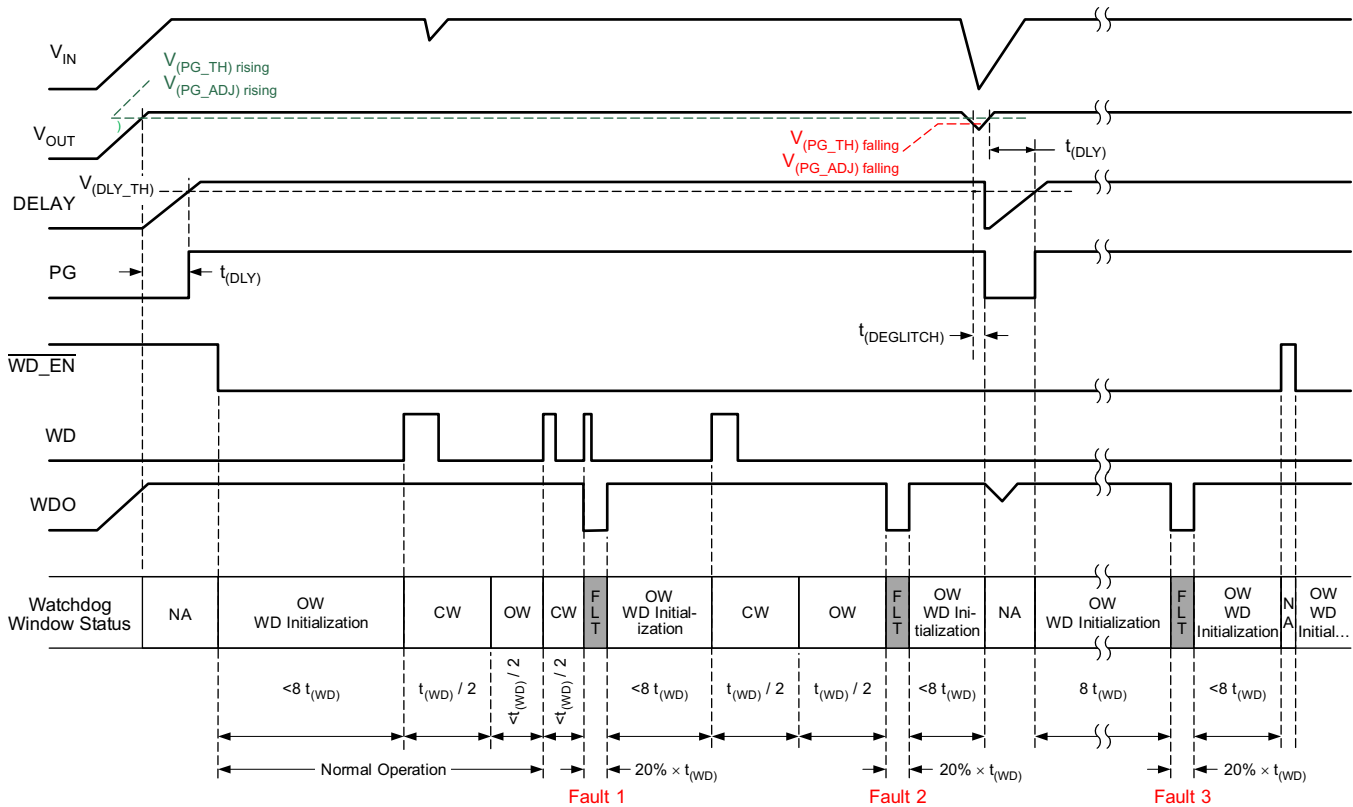

Figure 24. Window Watchdog Operation
The window watchdog is able to monitor whether the frequency of the watchdog service signal (WD) is within certain ranges. A watchdog low-voltage fault is reported when the frequency of the watchdog service signal is out of the setting range. 図 24 shows the window watchdog initialization and operation for the TPS7B68-Q1 (WRS is low). After the output voltage is in regulation and PG is high, the window watchdog becomes enabled when an external signal pulls $\overline{\text{WD_EN}}$ (the watchdog enable pin) low. This causes the watchdog to initialize and wait for a service signal during the first initialization window for 8 times the duration of t_{WD} . A service signal applied to the WD pin during the initialization open window resets the watchdog counter and a closed window starts. To prevent a fault condition from occurring, watchdog service must not occur during the closed window. Watchdog service must occur during the following open window to prevent a fault condition from occurring. The fault output (WDO), externally pulled up to V_{OUT} (typical), stays high as long as the watchdog receives a proper service signal and there is no other fault condition.
Three different fault conditions occur in Figure 24: